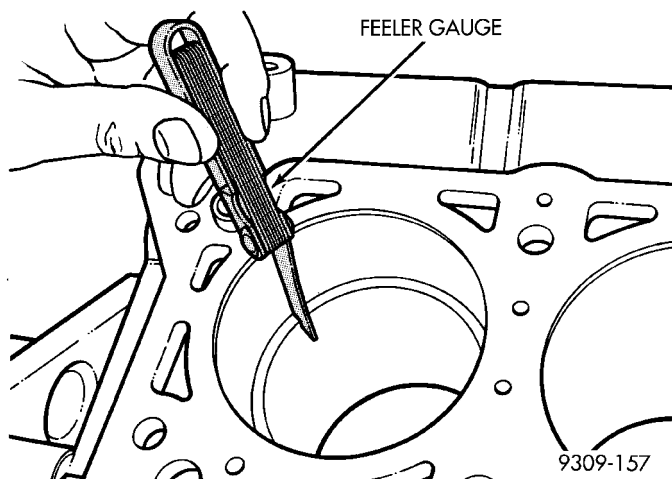

Fig. 5 Piston Ring Gap
(1) Wipe cylinder bore clean. Insert ring and push down with piston to ensure it is square in bore. The ring gap measurement must be made with the ring positioning at least 12 mm (0.50 inch) from bottom of cylinder bore. Check gap with feeler gauge (Fig. 5). Refer to specifications (Fig. 7).